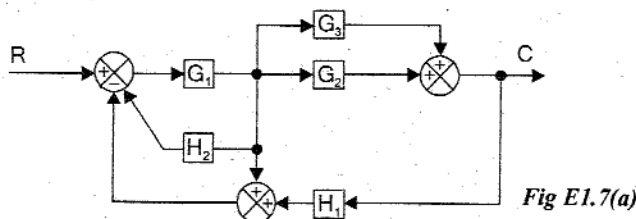

Fig E1.7(a)
- E1.7 Consider the block diagram shown in fig E1.7(a), (b) (c) & (d). Using the block diagram reduction technique, find C/R .